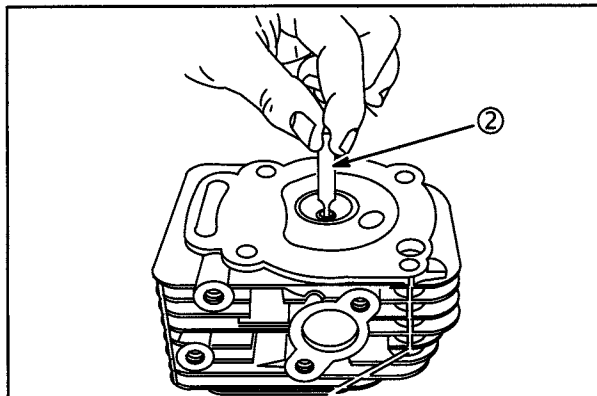

Fig. 10
2. Check valve guide bushings for wear using Plug Gauge (2) #19382, Fig. 10. Replace valve guide if gauge enters guide  $1/4"$  (6 mm) or more.